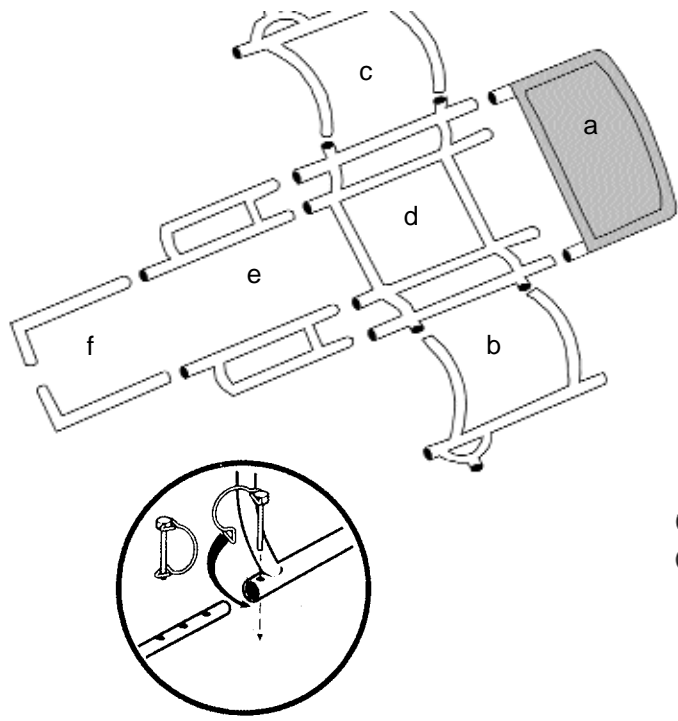

Fig. 1
1. Assemble cargo deck by sliding mesh cargo deck over frame member (see figure 1) and secure using attached hook and loop and strap to ladder lock fasteners.
3. Assemble seat support frame member to left and right frame members using (4) of the short snap pins (see figures 1 and 2.)
5. Assemble cargo deck to left and right frame members using (2) short snap pins (see figures 1 and 2).
6. Assemble foot bar extensions to seat support frame member. (see figure 1 and 2)
7. Assemble foot bars to left and right frame members using (2) short snap pins (see figures 1 and 2).